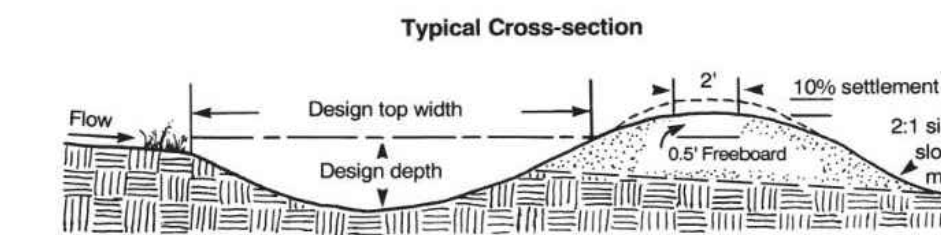

Figure 6.21b Typical cross section of permanent diversion.
- Ridge cross section (Figure 6.21b): Side slopes—2:1 or flatter (3:1 or flatter if mowed) Top width—2 ft minimum Freeboard—0.5 ft minimum Settlement—10% of fill height
**Construction** Excavate, fill, shape, and stabilize the diversion to line, grade, and cross section shown in the approved plan (Figure 6.21b). Overfill and compact ridge, allowing 10% for settlement. Settled ridge top must be at or above design elevation at all points. Compaction may be achieved by driving wheeled equipment along the ridge as lifts are added. Shape ridge and channel to blend with surrounding landscape.